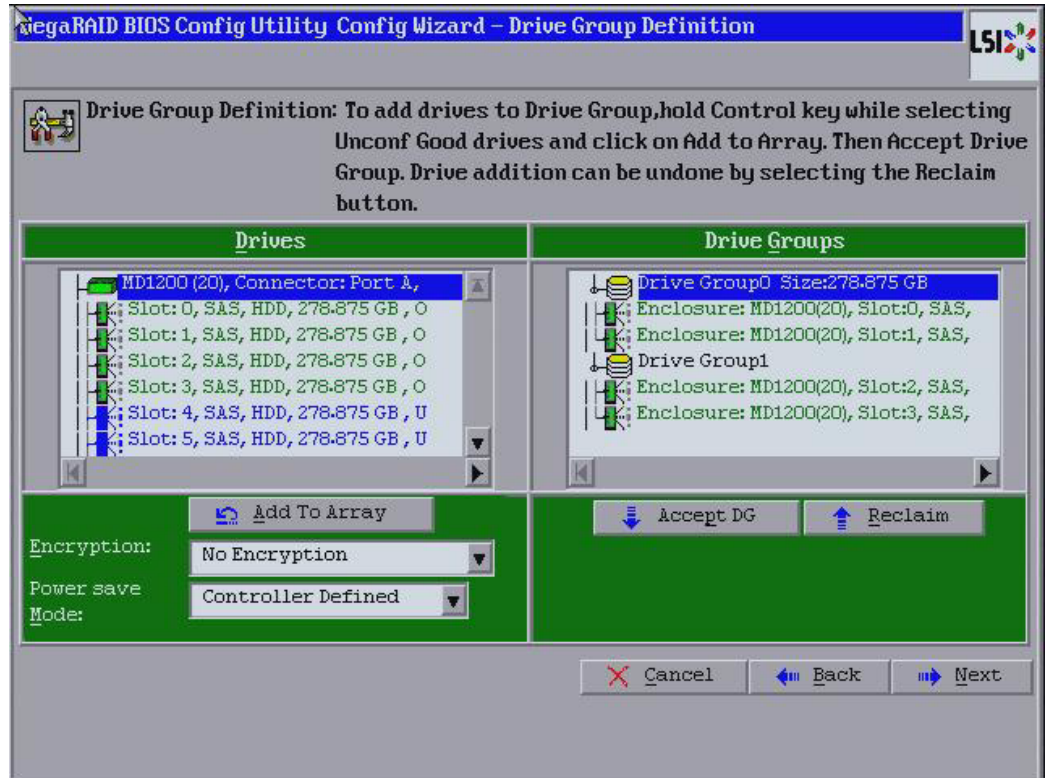

Figure 48: Drive Group Definition dialog
7. Click **Add To Array** to move the drives to a second two-drive group configuration in the Drive Groups panel, as shown in Figure 48.